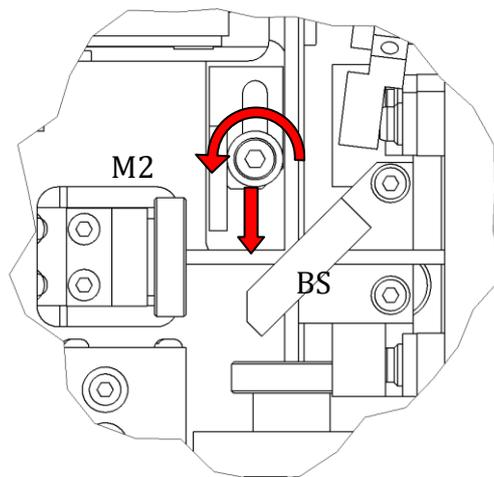

Fig. 7
3. Loosen the screw that fixes the calibration plate and insert it in the beam between the BS and M2 (see Fig. 7)